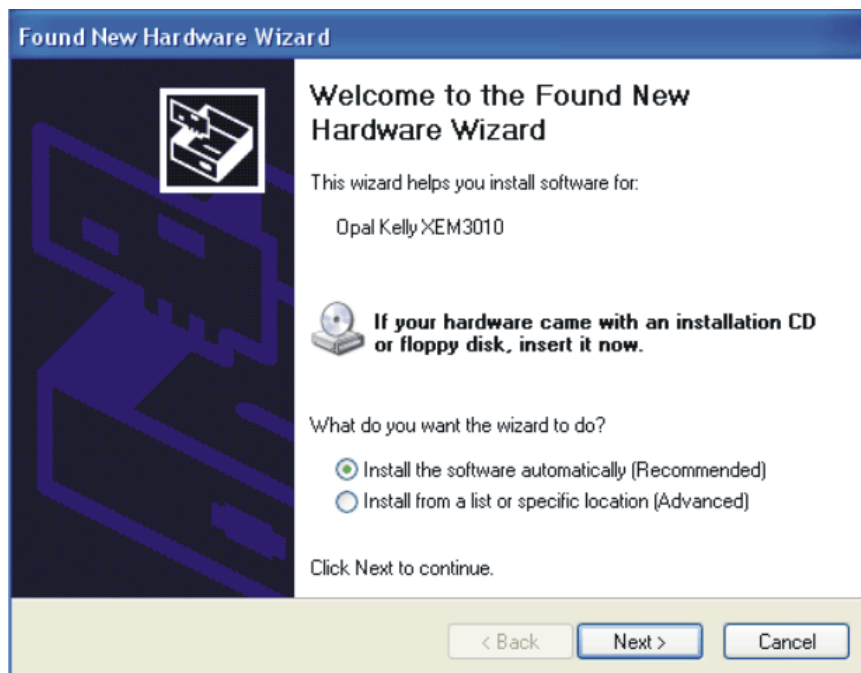

Figure 6. XEM3010 Driver Installation (Screen 1)
- Step 5. If you have not yet loaded the XEM3010 system drivers, Windows will display the Windows *Found New Hardware Wizard* sequence (illustrated in Figure 6 through Figure 9). When prompted, accept the *Continue Anyway* option as Figure 8 shows.